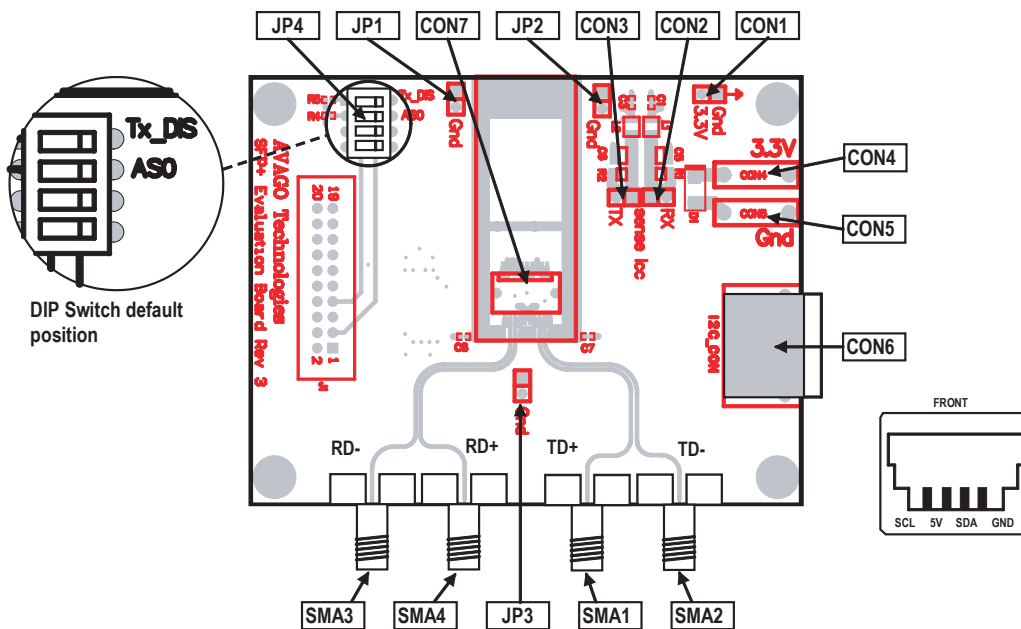

Figure 1. SFP+ Evaluation Board Top Views
The top view of the evaluation PCB is shown in Figure 1. TX_Disable and ASO pins should be grounded by default using DIP switch (JP4) setting as shown in the diagram. Apply 3.3 V power supply to CON4 with CON5 GND. CON2 and CON3 can be used to monitor the current to the SFP+ module's RXVCC and TXVCC supplies respectively. Measure the voltages and divide by 0.05 Ω sensing resistors. Use CON6 to access the SFP+ module's two-wire serial signals, SCL and SDA. JP1, JP2 and JP3 are all tied to the evaluation board's common circuit GND.
The SFP+ MSA specifies an EEPROM internal to the transceiver. The standard two-wire serial protocol can be implemented to allow the user to read/write the user accessible area in the EEPROM by using the MOD_DEF(1), MOD_DEF(2) and GND connections on the Evaluation board. MOD_DEF(1) and MOD_DEF(2) are equal to SCL and SDA respectively as shown in the Figure 1 connector illustration.